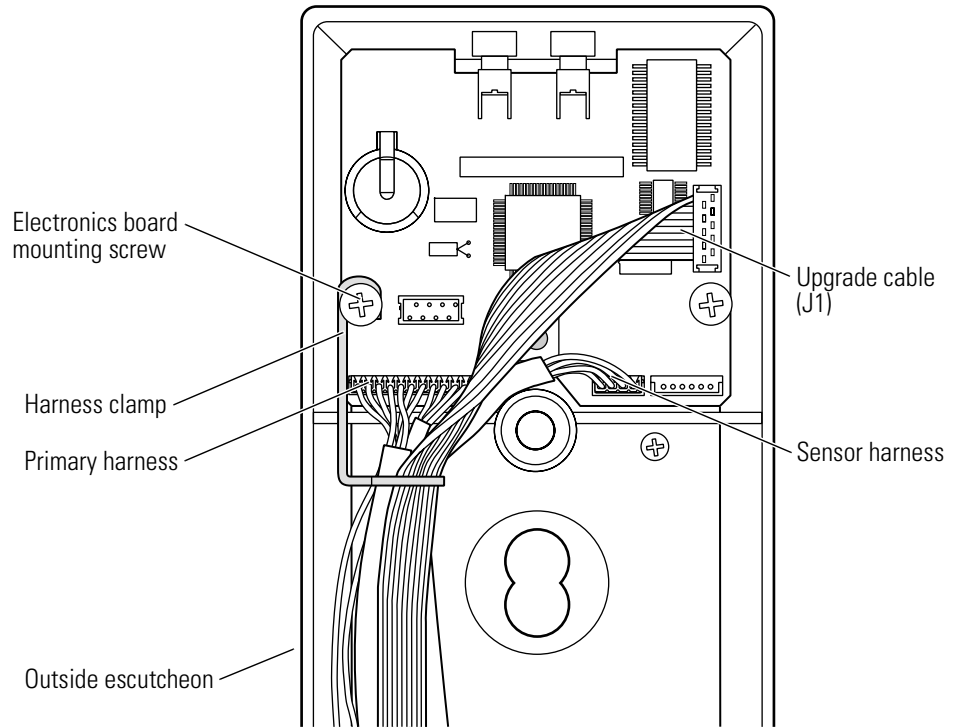

Figure 9.3 Removing and reinstalling the harness clamp (smart card reader shown)
2. Position the primary harness, sensor harness (EV, FV, and LV function mortise locks), and upgrade cable under the clamp, as shown in Figure 9.3.